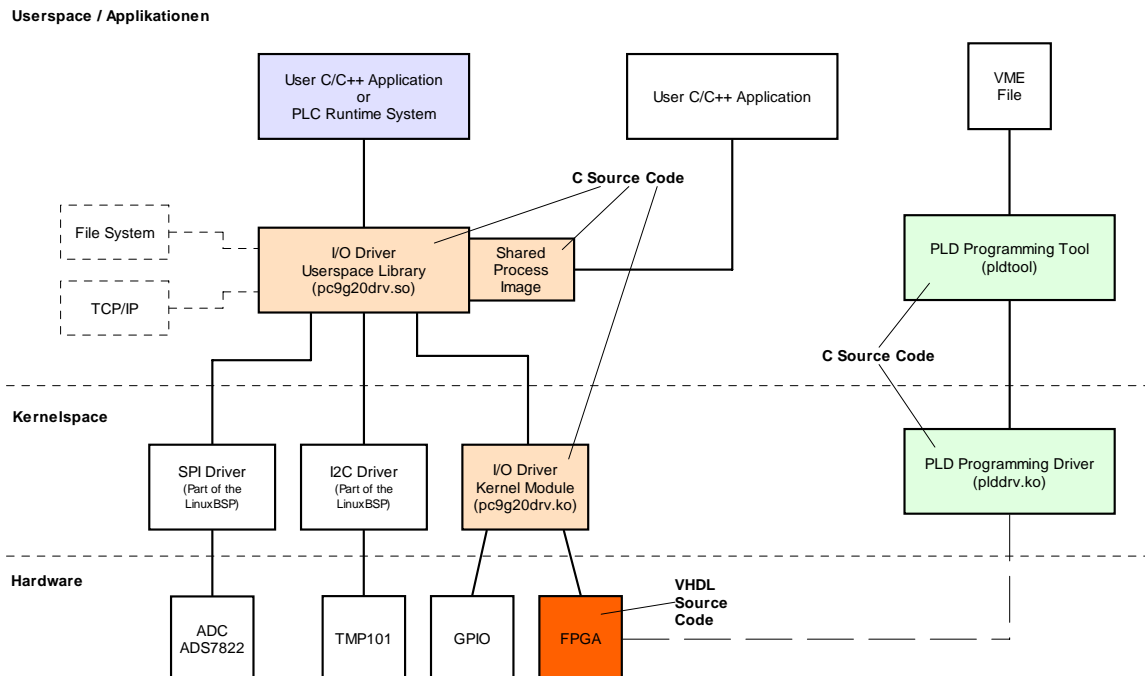

Figure 60: Overview of the Driver Development Kit for the ECUcore-9G20
Figure 60 provides an overview of the DDK structure and its components. The DDK contains the FPGA software sources (VHDL) as well as the source code of the Linux kernel driver (*pc9g20drv.ko*) and the Linux user library (*pc9g20drv.so*). Additionally, the DDK includes a PLD Programming Tool (*pldtool* + *plddrv.ko*) which allows for a FPGA software update without extra JTAG hardware.
2. Source code for the Linux kernel driver (*pc9g20drv.ko*, see Figure 60); includes all files necessary to regenerate kernel drivers (C and H files, Make file etc.)
3. Source code for the Linux user library (*pc9g20drv.so*, see Figure 60); contains all files (incl. implementation of Shared Process Image) necessary to regenerate a user library (C and H files, Make file etc.)